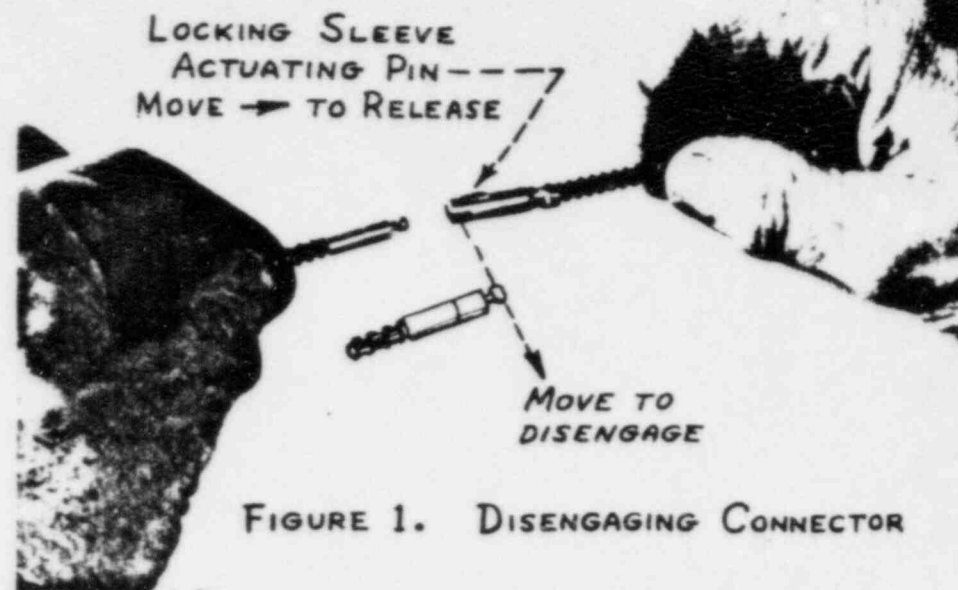

FIGURE 1. DISENGAGING CONNECTOR
3. Open the source guides and disconnect the source assembly from the drive cable. See FIGURE 1. The locking sleeve must be retracted by moving the actuating pin in the direction shown. The thumbnail, a coin or key may be used. This permits the drive cable terminal to be moved sideways out of the hole, freeing it from the connector.